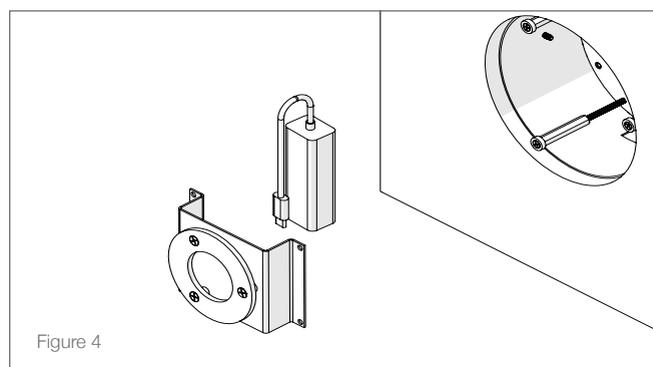

Figure 4
2. Insert the Josh Micro POE in a vertical orientation so that the connector is facing down and the corded portion of the connector is free (see Figure 4).
3. Loosen the three screws on the outside of the back box assembly along the three metal tracks so the collar can slide freely on the back box (see Figure 4).